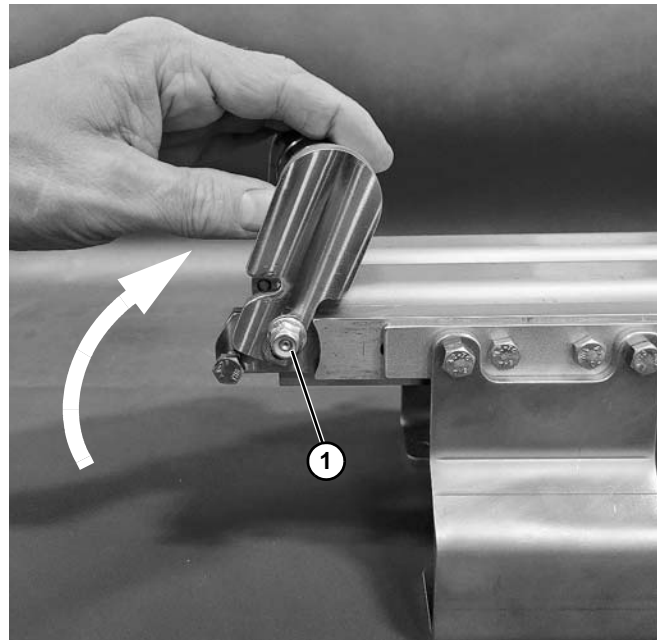

Figure 65
2. Rotate idler tail up (**Figure 65**).